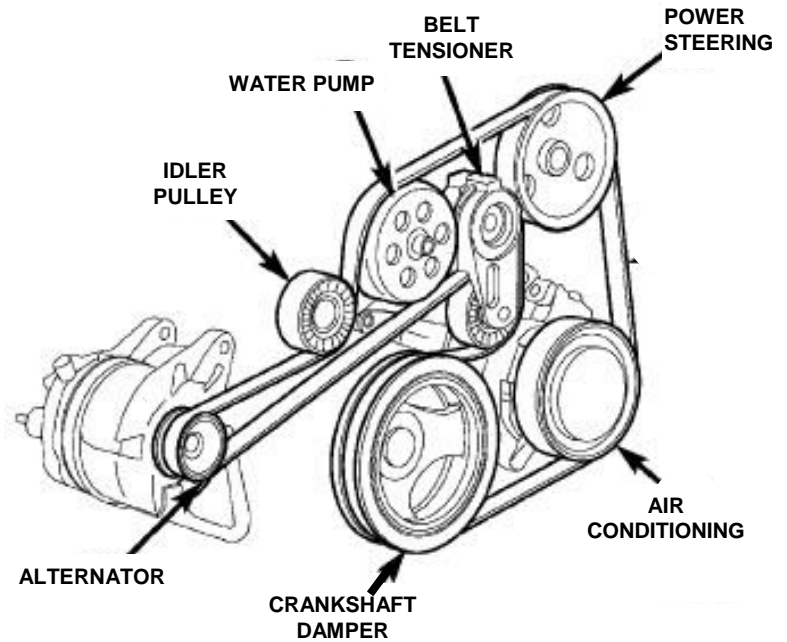

Figure 18 – Accessory Drive Belt Routing
101. Install the accessory drive belt (Figure 18).
- a. Remove the engine cooling system hot bottle cap (Figure 18).
- c. Continue adding engine coolant until coolant begins to run out of the thermostat housing plug hole in the thermostat housing (Figure 18).